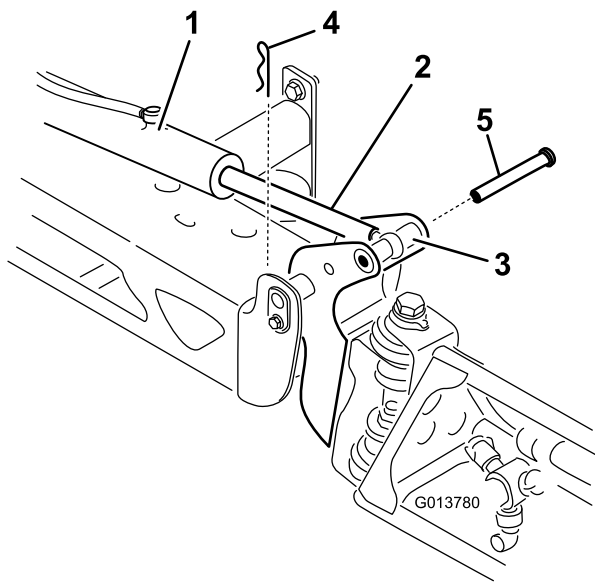

Figure 54
2. Remove the cotter pin from the pivot pin (Figure 54).
3. Lift up on the boom and remove the pin (Figure 54). Slowly lower the boom to the ground.
7. While holding the boom, insert the pin through both boom pivot and actuator rod (Figure 54).